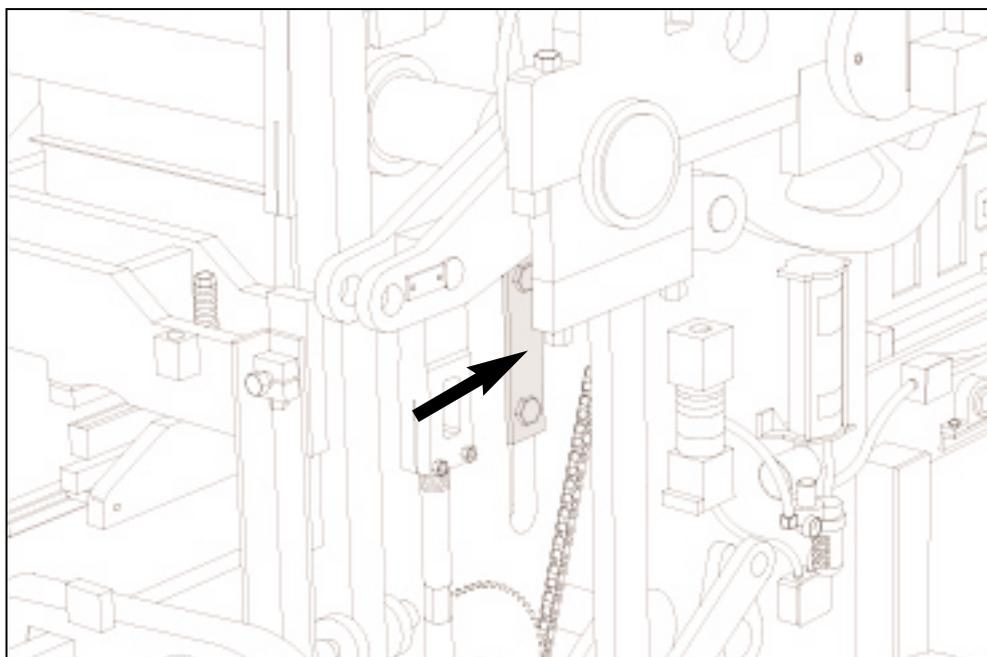

Figure 4.5 LOOSEN "T" CLAMPS ON BOTH SIDES.
- a. Loosen the "T" clamps on each side of machine that secure machine side plate to mold throat plate. (Figure 4.5)